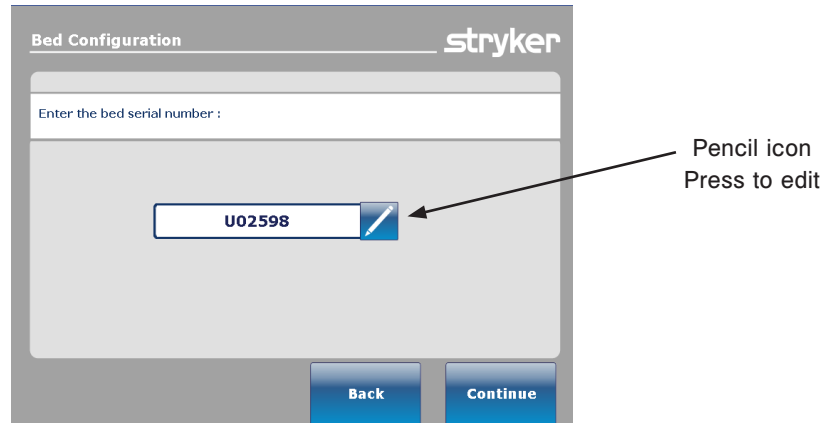

Figure 32: Bed Configuration Serial Number Screen
1. Press and hold the **HOB 30** button and the **Vascular Position** button at the same time for 25 seconds then release both buttons. The Bed Configuration - Serial Number screen (Figure 32) will be displayed.
2. Enter or confirm the serial number of the bed (Figure 32).
- ii. Enter the serial number of the bed in the serial number field, then press the **OK** button. You will be returned to the serial number main screen as shown in Figure 32.